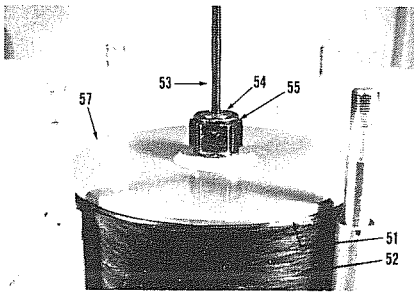

Figure 7-15, Air piston installed in cylinder.
7.2.9 Lubricate second o-ring (51) with Molykote® and install in groove of air piston (57). Install air piston and piston rod (64) into cylinder and through hole of oil end plate (58) until end of rod bottoms on bench. See Figure 7-15.